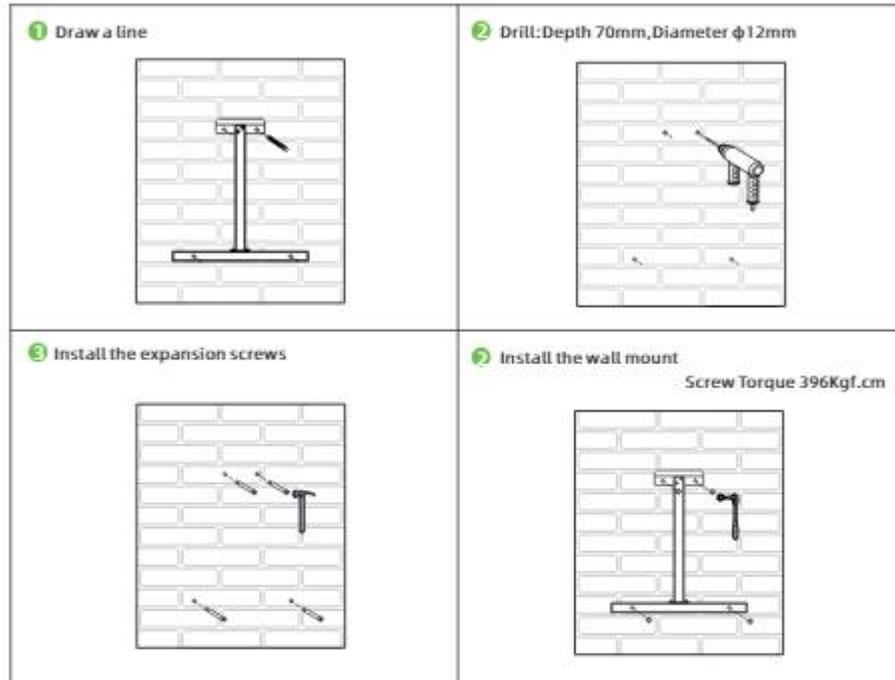

Fig 5.9
STEP 1: Use the wall mount plate as a template, drill holes into the wall and insert the expansion bolts as Fig 5.9 show ;